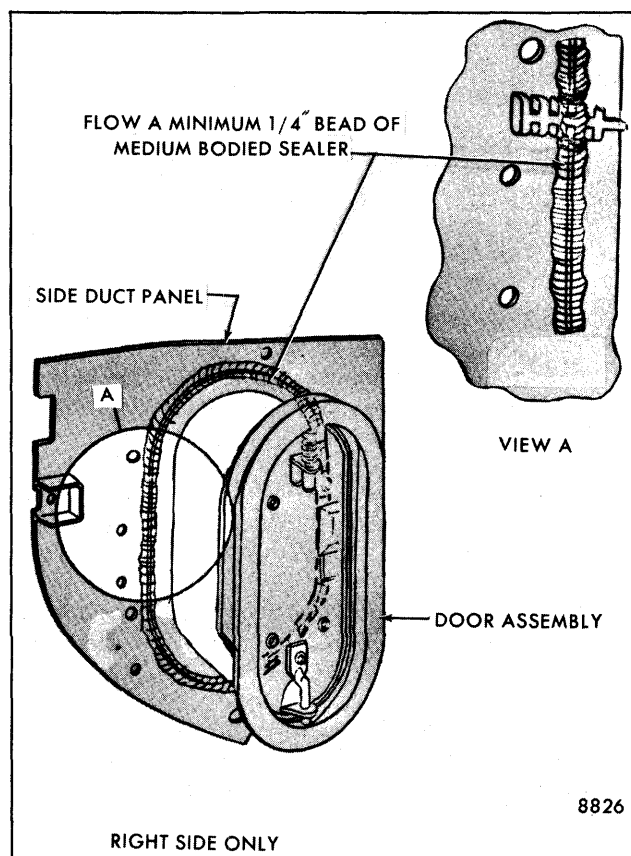

Fig. 4-6-Side Duct Panel and Door Assembly Sealing
NOTE: Prior to reinstallation apply a minimum 1/4" bead of pumpable medium bodied sealer completely around attaching flange of assembly as shown in Figure 4-6 to prevent water entry.
4. To install, reverse removal procedure. Use care not to disturb peripheral seal around door assembly (Fig. 4-6).